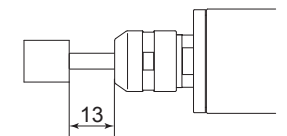

Fig. 22
- ① The proper surface speed for general grindstones is 10 - 30m / s.
- ② Do not exceed 13mm of overhang for mounted grindstones as shown in Fig. 22. If the overhang must exceed 13mm, reduce the motor speed in accordance with table 2.
- ③ Dress the grindstone prior to use.
- ④ Do not use cutting tools with bent or broken shanks, cracks or excessive run-out.
- ⑤ For grinding, the maximum depth of cut should not exceed 0.01mm radially or axially. Reciprocate the tool several times after each pass to eliminate tool pressure.
- ⑥ Always operate tools within the allowable recommended speed of the tools. Use of a tool outside of the allowable speed of the tools could cause damage to the spindle and injury to the operator.
- ⑦ Keep the tool shank and collet clean. If contaminants are left in the collet or collet nut, excessive run-out will cause damage to the tool and or spindle.
- ⑧ Do not strike or disassemble the spindle.
- ⑨ Please set the tools to minimize the overhang amount. 13mm is the maximum amount of overhang to maintain high accuracy and safety.